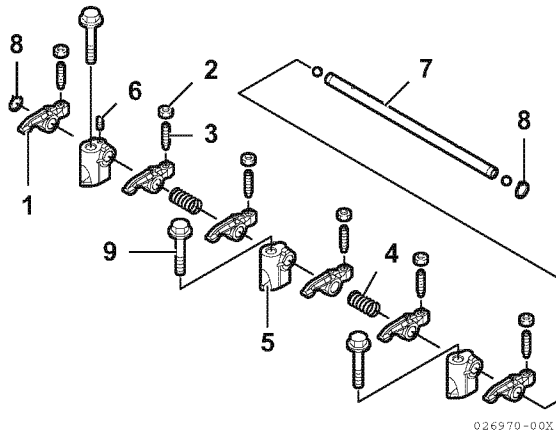

Figure 6-5
1. Remove the rocker arm shaft alignment setscrew (Figure 6-5, (6)) from support.
2. Remove two circlips (Figure 6-5, (8)).
3. Slide the rocker arm shaft (Figure 6-5, (7)) out of the rocker arm supports (Figure 6-5, (5)), springs (Figure 6-5, (4)) and rocker arms (Figure 6-5, (1)).
4. Remove the valve adjusting screw (Figure 6-5, (3)) and lock nut (Figure 6-5, (2)) from the rocker arms. Mark parts so they can be installed on the same rocker arm.